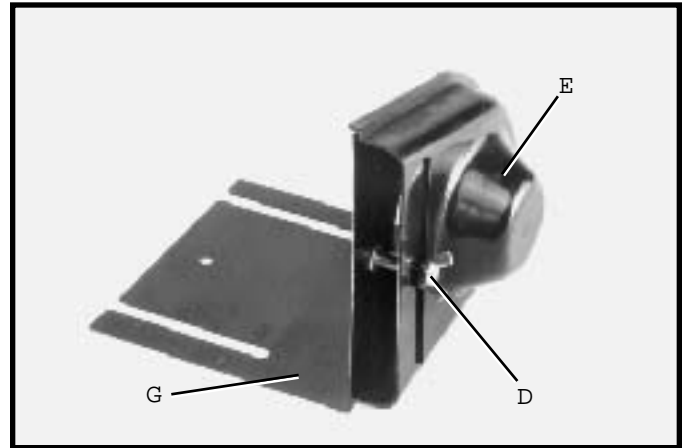

Fig. 17
3. Remove wing nut and external tooth lockwasher (D) Fig. 17, and outer cover (E) from belt and pulley guard (G).